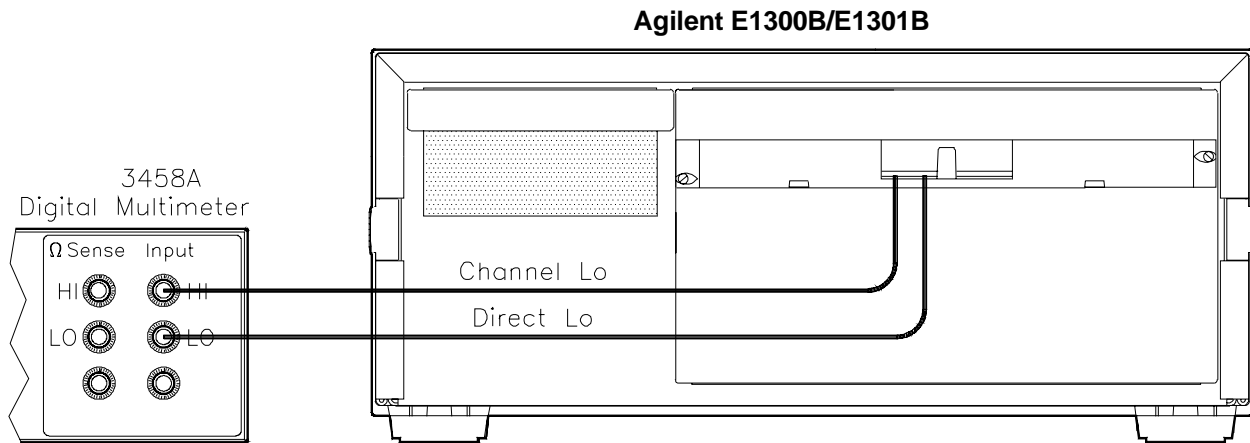

Figure 2-3. LO Channel Resistance Test Connections
- Connect DMM as shown in Figure 2-3